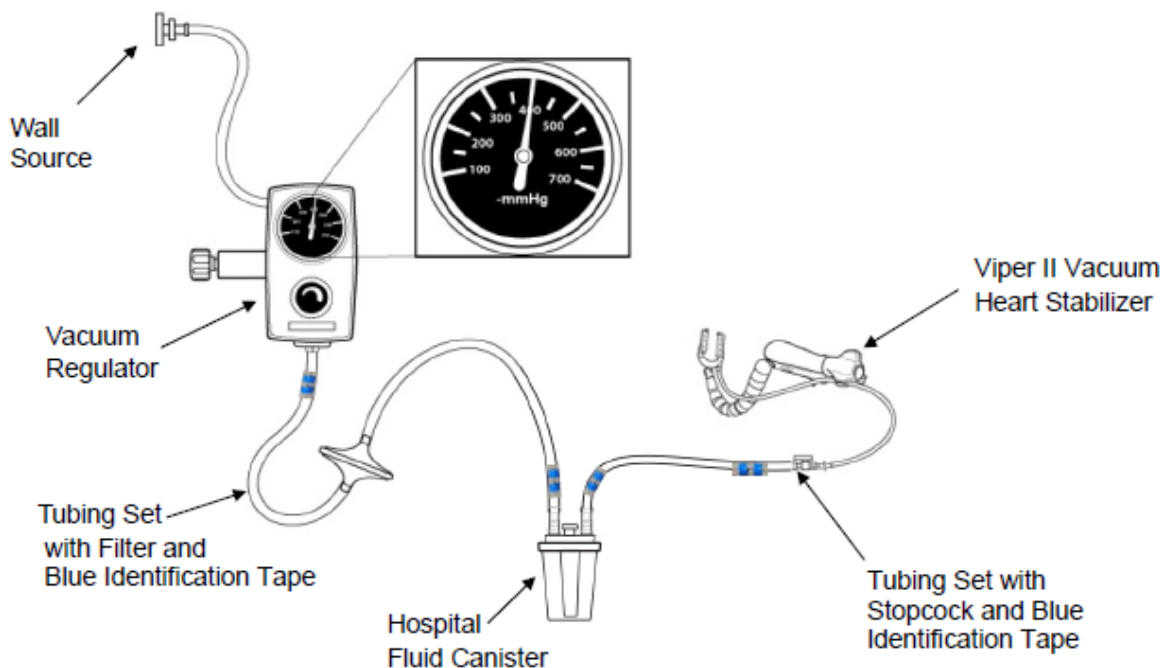

Figure 1
2. Per Figure 1, attach tubing (not supplied) from the operating room suction wall source to the back of the hospital's vacuum regulator. Turn regulator on and set vacuum to (-) 400 mmHg.